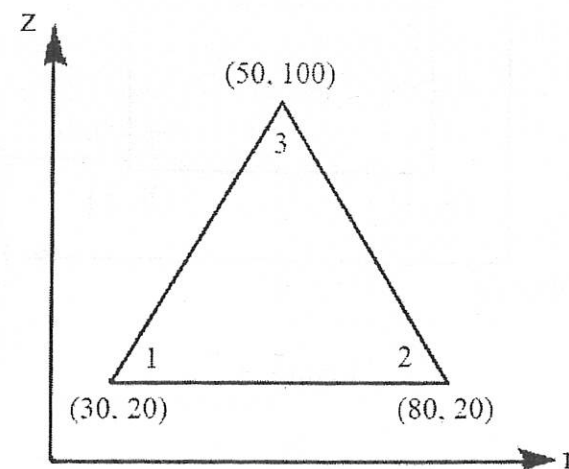

Figure. 6
- (b) For the axisymmetric element shown in Figure 6, the nodal displacements are-